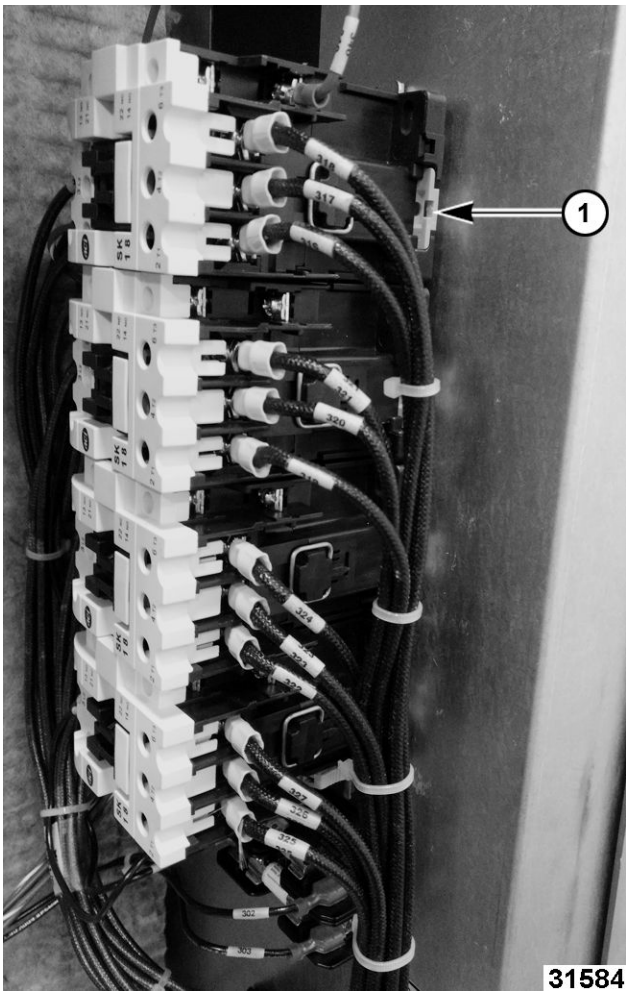

Fig. 97
**NOTE:** Use a flat screwdriver to pull out orange tab (1, Fig. 97) to release contactor from DIN rail.